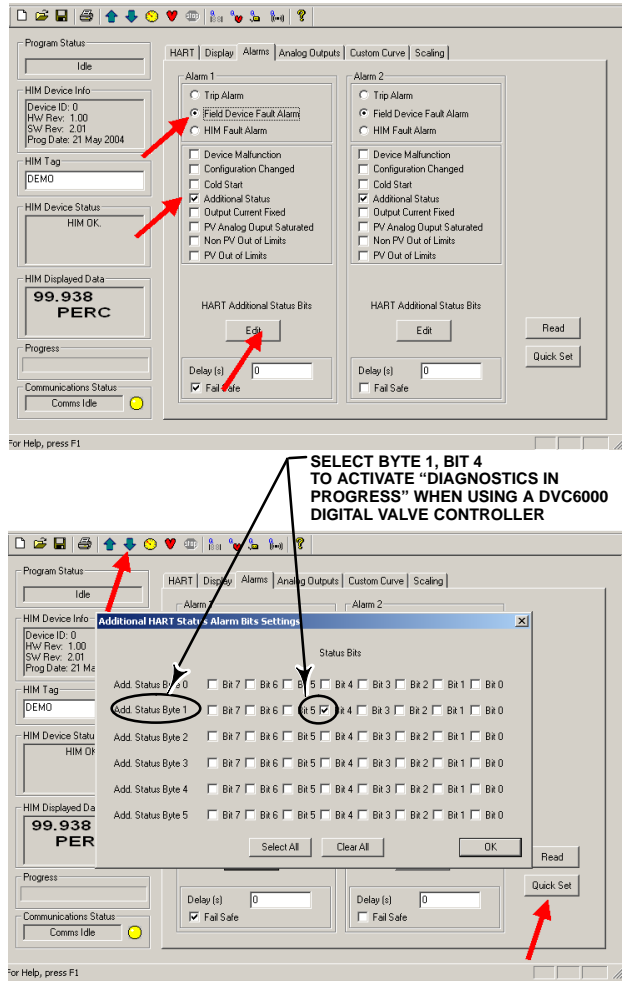

Figure 9. Setting the Field Device Fault Alarm
Table 5. Field Device Fault Alarm; Malfunctions (refer to figure 9)
These alerts are available by checking the "Field Device Fault Alarm" as shown in figure 9, selecting "Additional Status, and then clicking on "Edit".
- "Diagnostic in Progress" (Additional Status Byte 1, Bit 4)—Indicates that the Partial Stroke Test is in progress. Refer to figure 9.
Table 6. Additional HART® Status Alarm Bits Settings Available From the FIELDVUE® DVC6000 and DVC6000 SIS Digital Valve Controller (refer to figure 9)
Table 7. Additional HART® Status Alarm Bits Settings Available From FIELDVUE® DLC3010 (refer to figure 9)